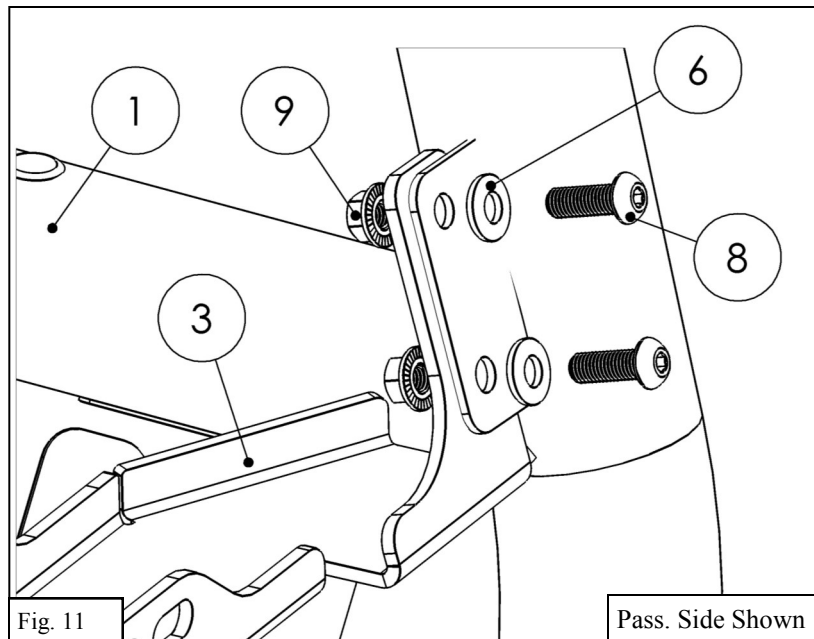

Fig. 11
9. Loosely install the Bull Bar to each mounting bracket using (4) M10 Button Head Bolts, (4) M10 Bellville Washers, (4) M10 Flange Nuts on each side (Figure 11).